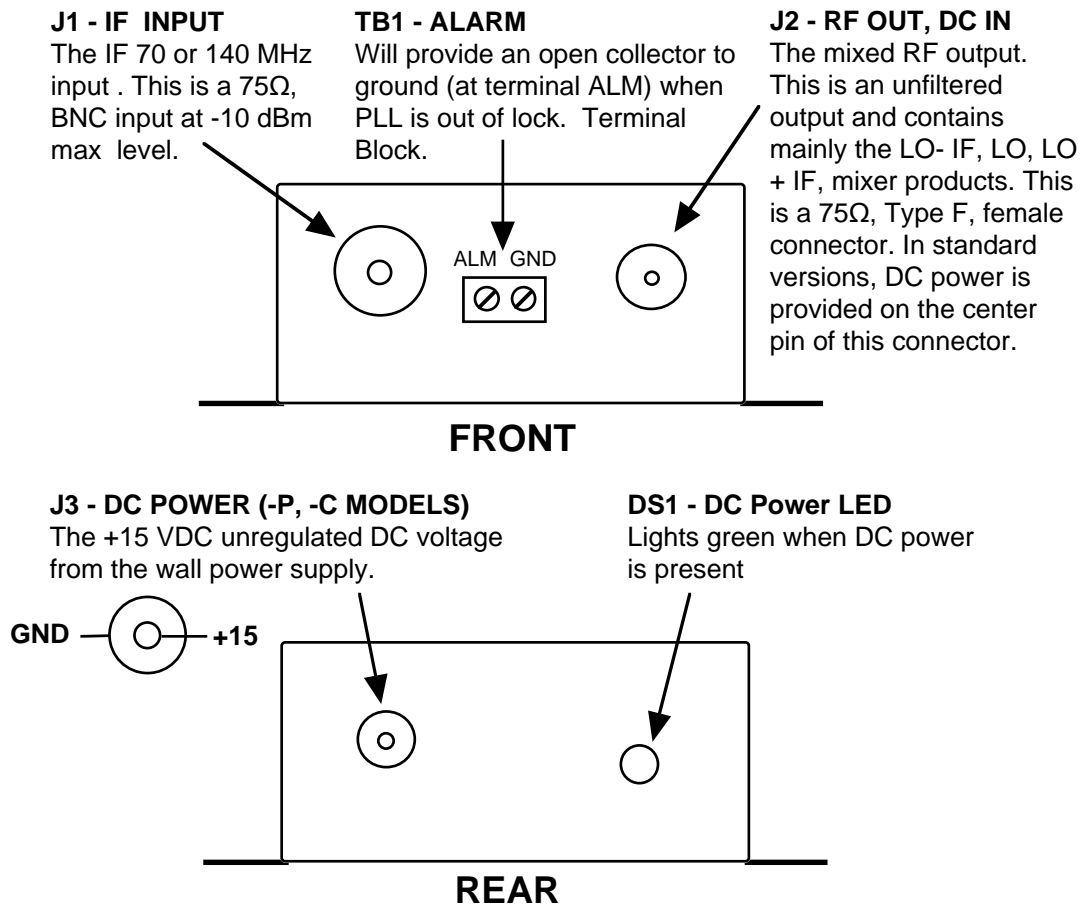

Figure 2.3 2006-03 Input, Output, Alarm Power LED, External DC In (-P, -C Options)
There are no controls. A green LED indicates presence of DC power and a terminal block indicates a PLL alarm with an open collector to ground at the ALM terminal (Figure 2.3).
Figure 2.3 shows the input and output signals to the 2006-03.
- 4.) Connect -10 dBm (maximum) signal to IF In, J1 (Figure 2.3).